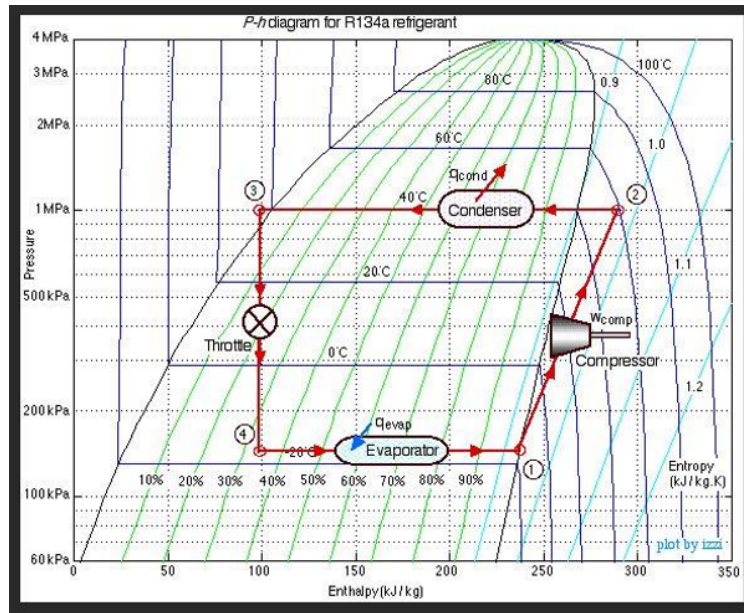

Fig. 2: A vapor-compression cycle using R-134a.
1. **Compressor (1 → 2):** Cold, low-pressure saturated vapor is compressed to a high pressure and temperature; this is where work is done on the refrigerant. For this analysis, the process is assumed to be isentropic ($S_1 = S_2$). $W = H_2 - H_1$, though you can see on Fig. 2 that an increase in entropy for this process could be drawn, which would increase the exit entropy and the work required.
3. **Expansion Valve (3 → 4):** The high-pressure liquid is throttled through a valve (Joule-Thomson expansion). It expands isenthalpically ($H_3 = H_4$). The pressure drops, and it flashes into a very cold liquid-vapor mixture. In Fig. 2, the cold refrigerant is at -20°C, which is colder than the inside of the fridge, allowing it to absorb heat in the next step.